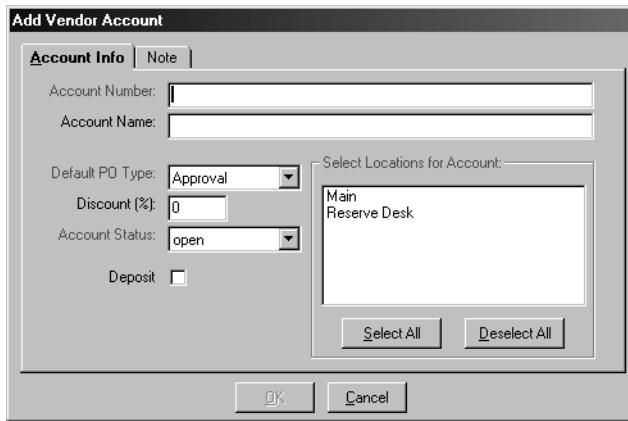

Figure 4-13. Add Vendor Account dialog box - Account Info tab
3. On the **Account Info** tab (Figure 4-13), enter the vendor-assigned account number for your institution in the **Account Number** field. This information is required in order for the account to be added.